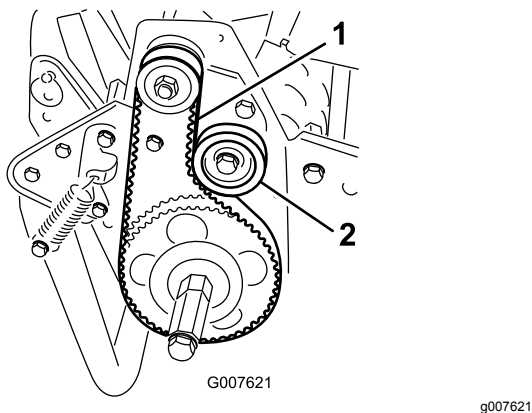

Figure 44
2. Check the tension by pressing the belt at mid span of the pulleys (Figure 44) with 18 to 22 N (4 to 5 lb) of force.
- A. Loosen the idler-pulley mounting nut and pivot the idler pulley clockwise against the backside of the belt until the desired belt tension is attained (Figure 44).